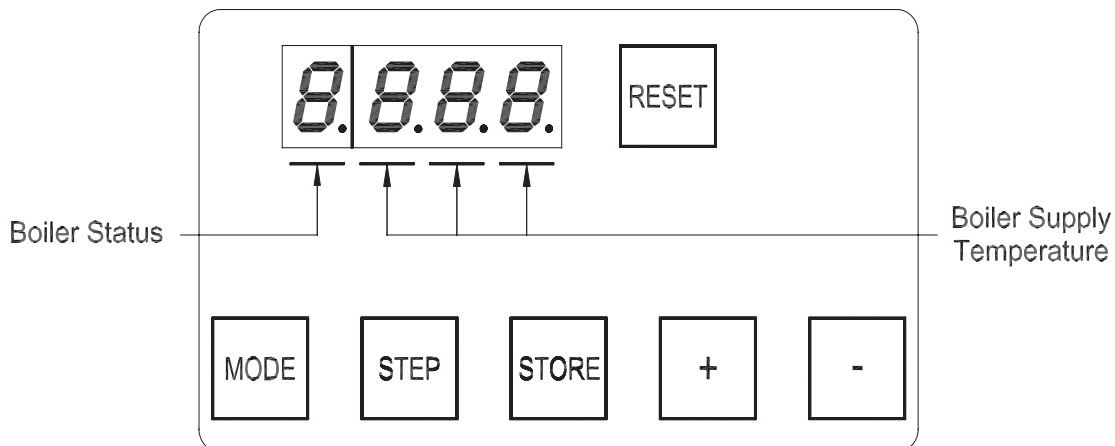

Figure 11.1: Normal Display In Standby Mode
Under normal conditions, the boiler is in standby mode and the display looks like that shown in Figure 11.1. The three digits to the right of the decimal point are the boiler’s supply temperature. The digit to the left of the decimal point is the boiler’s status code. A list of status codes, and their meanings, is shown in Table 11.3. Figure 11.2 is a map of the menu structure for the control panel. Push the mode key to move from one mode to the next. As you change modes, the mode you are entering is shown on the display:
- c) “*Stby*” for Standby Mode. Upon entering standby mode, “Stby” will briefly appear on the display and then the display will show the boiler’s status along with the supply temperature (Figure 11.1).
Boiler not responding to call for heat, Status code on display ="0" (see Figure 11.1)	<ul style="list-style-type: none"> Boiler is not seeing call for heat. Check thermostat or zone wiring for loose connection, miswiring, or defective thermostat/zone control.